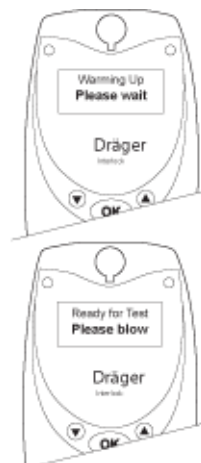

Figure 2
4. The Interlock will show "Warming up - PLEASE WAIT" on the display screen as shown in Figure 2 and the yellow light on the left side of the device will remain constantly on..
5. When the Interlock is ready for the breath sample it will display "Ready for Test - PLEASE BLOW" on the screen as shown in Figure 2 and the yellow light on the left side of the device will flash repeatedly.